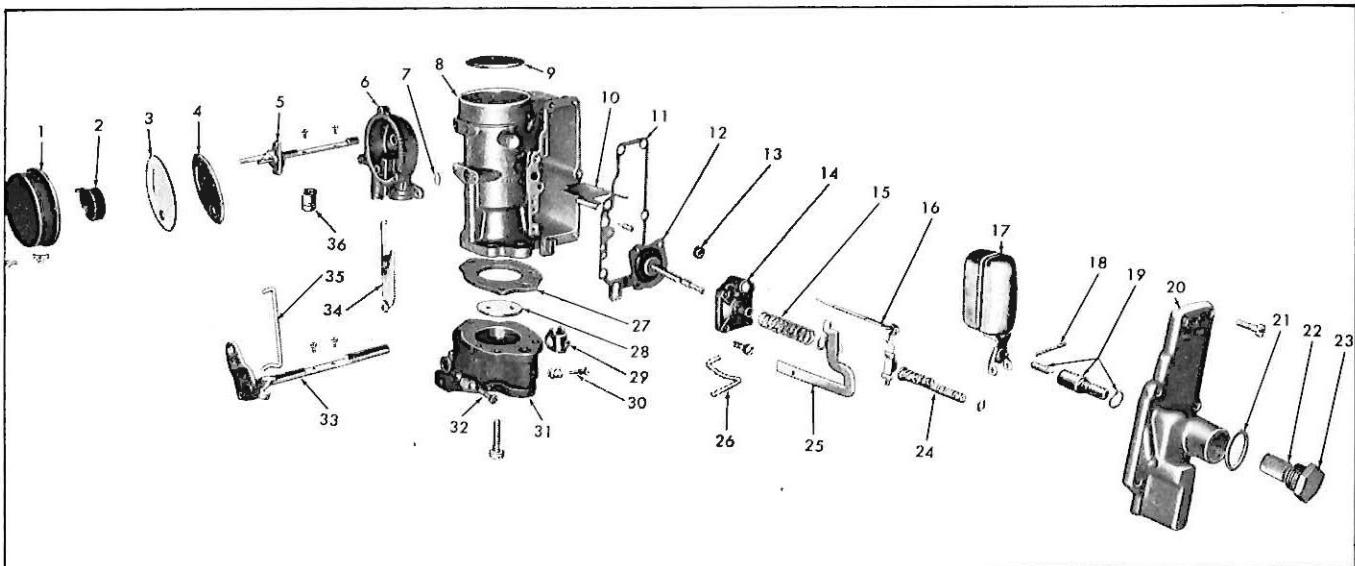

Fig. 14—Carburetor (Exploded View)
#### Disassembly (Fig. 14)
8. Install metering rod onto the metering rod arm, hook the spring and install retainer clip (fig. 14).